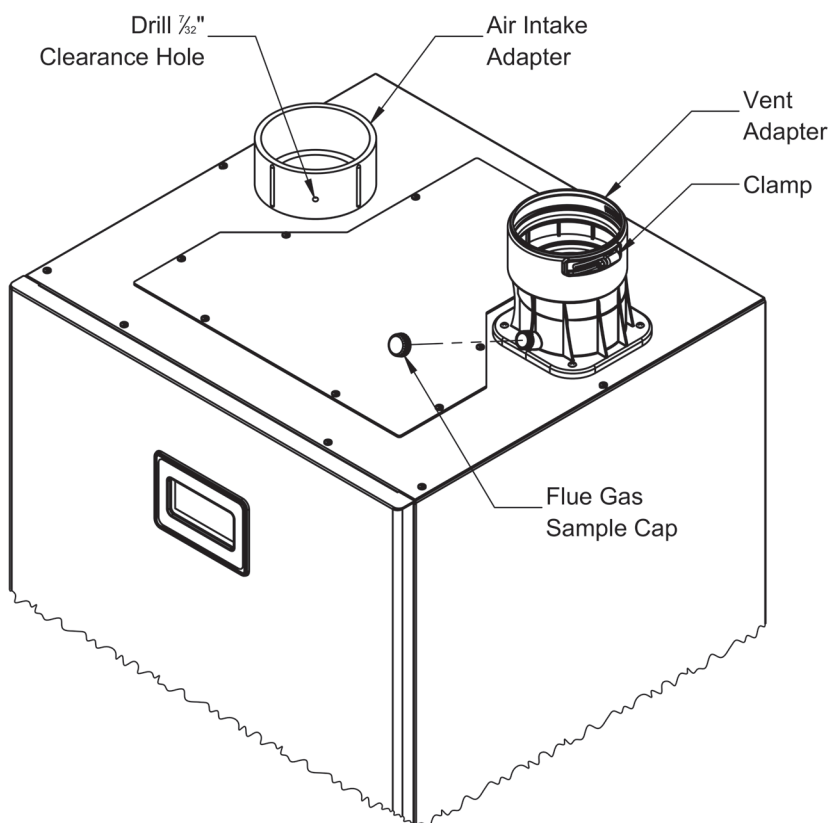

Figure 7.26: Vent Connections and Flue Gas Sample Cap Location
Never leave the boiler in operation without the gas sample cap in place (Figure 7.26).
- a. The vent adaptor has three different inside diameters. The middle inside diameter accepts 4" nominal PolyPro (Figure 7.26). Lubricate the gaskets in the vent adaptor with soapy water and insert the first piece of 4" PolyPro into the adaptor until it bottoms out. Tighten band clamp on vent adaptor to secure vent pipe.